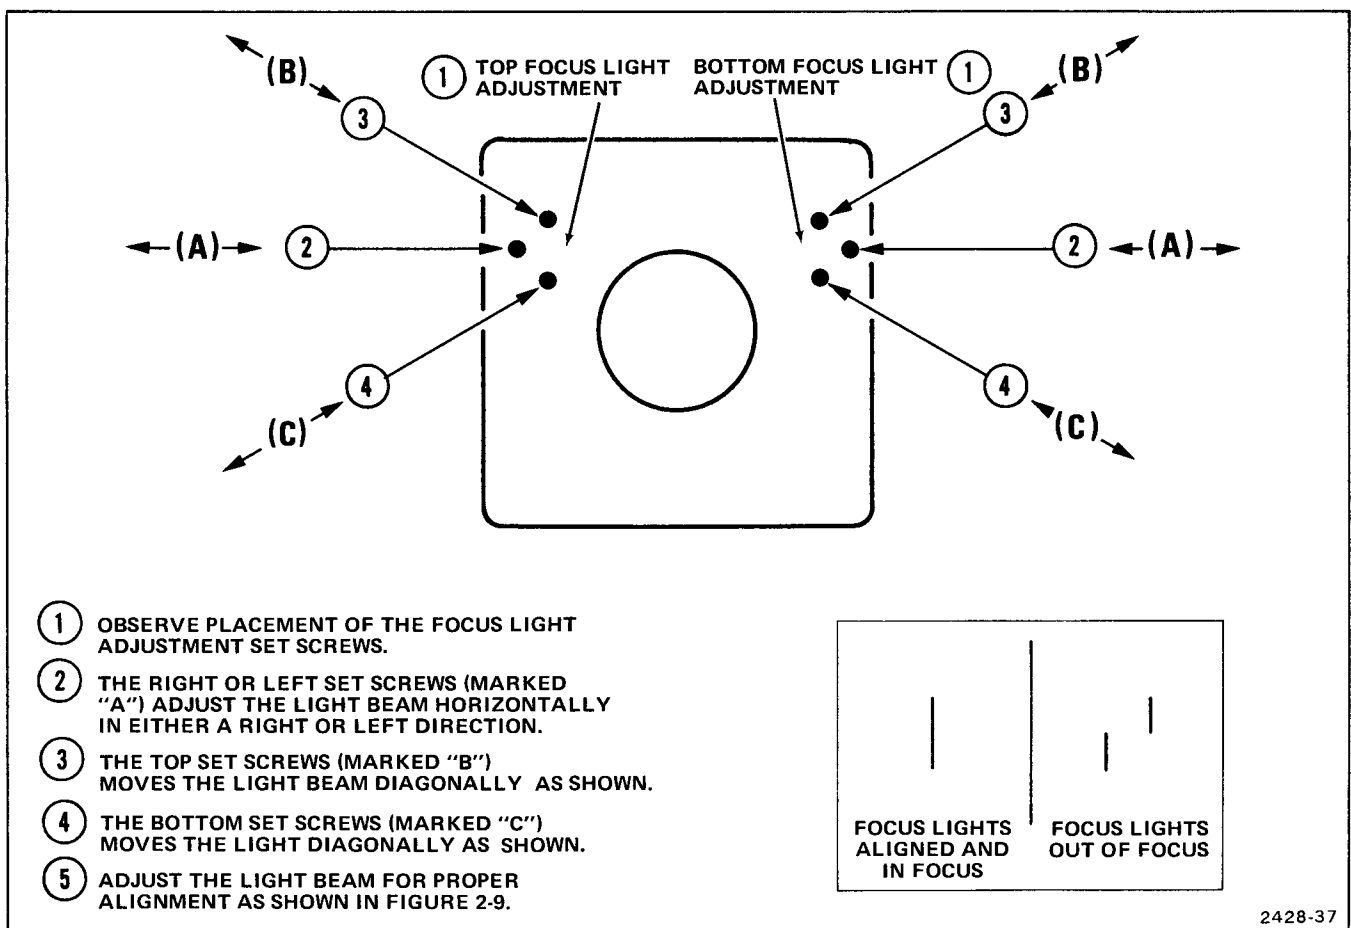

Figure 4-5. Adjusting the self-contained focus system.
3. Refer to Figure 4-5 for adjustment procedures.